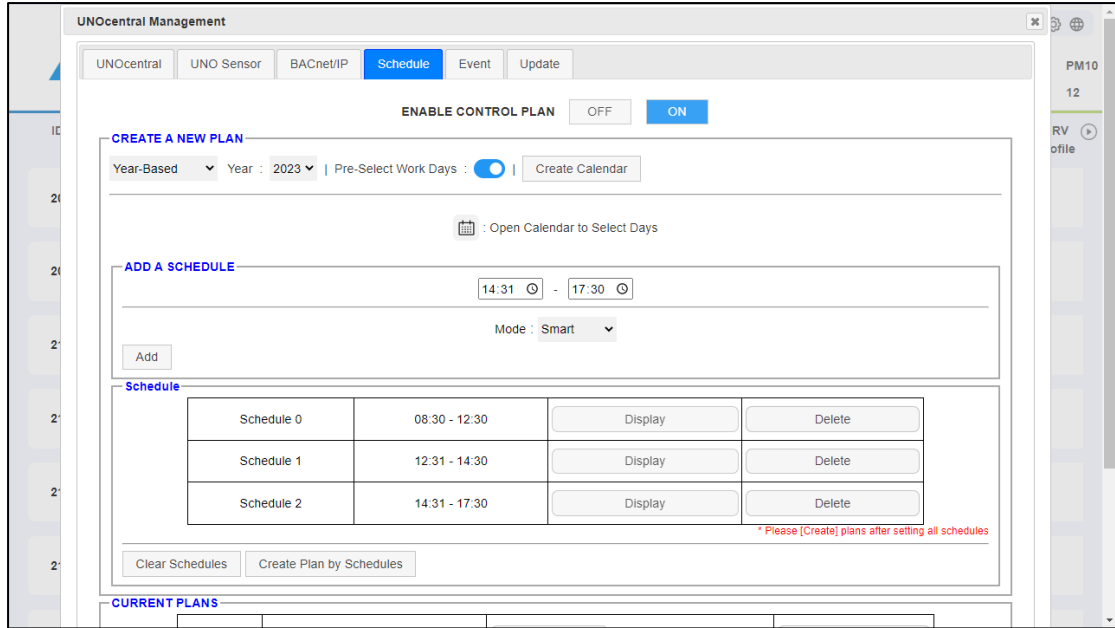

Figure 21 Add a schedule for new plan
2. Then in the displayed **Add a schedule** blocks, select the **time interval** and the **scheduling mode**. The mode can be set as **turbo scheduling**, and it is displayed as **(C) Turbo**; or be set as **smart scheduling**, displayed as **(C) Smart**, the differences between Turbo and Smart modes can be referred to Table 10. Press [Add] to create a schedule. Click the button on the schedule to view the schedule details, as shown in Figure 21. After this step, users can create up to 4 schedules in one control plan. After editing all schedules, click **Create plan by schedules**. **Note: At this time, the control plan has not yet taken effect.**